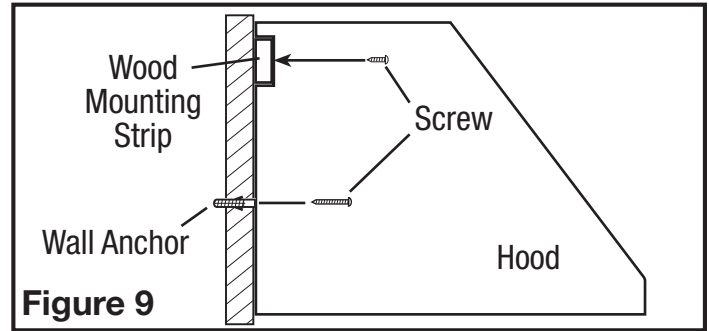

Figure 9
- Rest the cavity in the back side of the hood on the wood strip and secure hood to wood strip with the included 3/4" screws through the holes in the back of the hood that line up with the wood strip (use 6 screws for 30" and 36" widths and 8 screws for larger widths) Secure the bottom of the hood by installing the screws provided into the wall anchors (Figure 9).